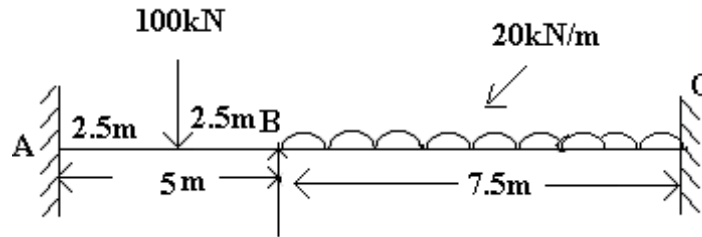

Figure 2:
5. Analyse the two-span continuous beam loaded as shown in Figure 2 by the slope deflection method, if the moment by inertia of span $AB = I$, while that of $BC = 3I$. Sketch the B.M. and SFD [16]